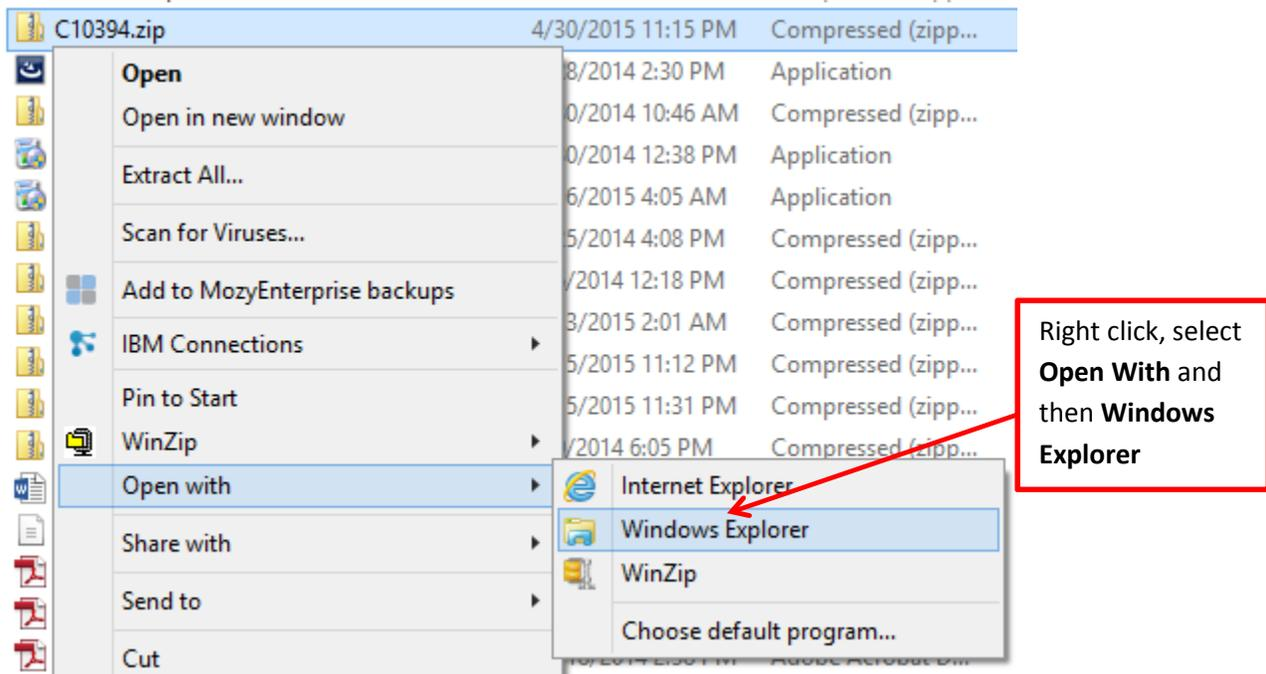

Figure 14
11. Right-click on the zipped calibration file. Go to Open with and then Windows Explorer (Figure 14).